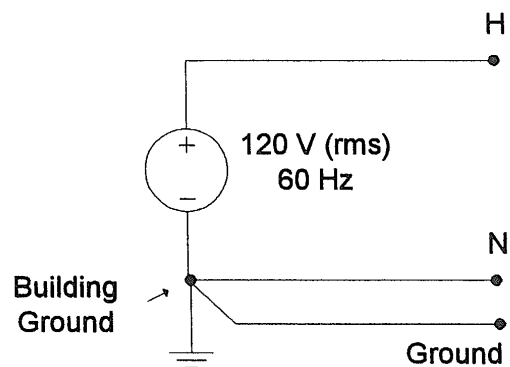

Figure B.1: Equivalent circuit for non-isolated 120 V (rms), 60 Hz power supply.
Figure B.1 shows an equivalent circuit for the workbench's NON-ISOLATED 120 V, 60 Hz supply receptacle. The neutral (N) line carries current from the load back to the source and is connected to ground (G) at the source for purposes of personnel and equipment safety. With respect to ground, the high or “hot” (H) line varies sinusoidally at a potential that ranges from a negative maximum of about -169 Volts to a positive maximum of about +169 Volts.